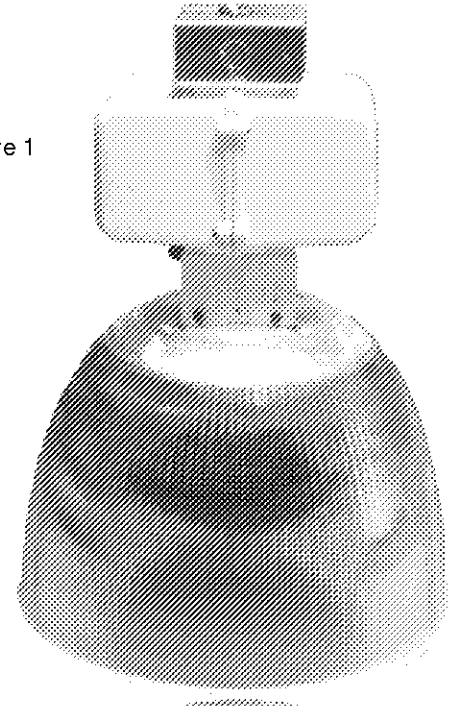

Figure 1
1. Disconnect power prior to installation. Unhook fixture and place on a flat surface. See Figure 1